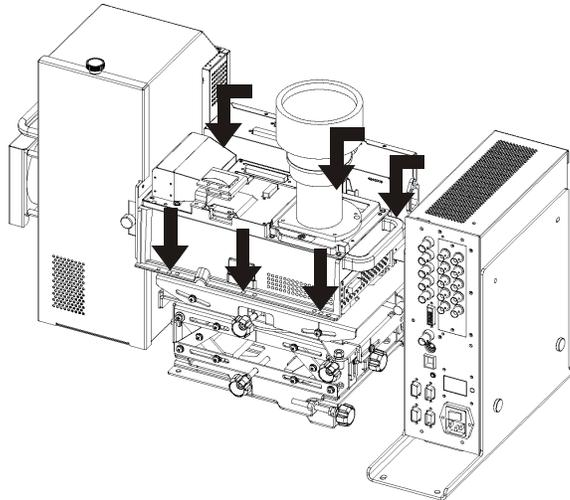

FIGURE 2-3 LOOSEN LIGHT ENGINE
3. Remove the (6) M4 screws securing the light engine module to the 6-axis adjuster, see Figure 2-3 Loosen Light Engine.